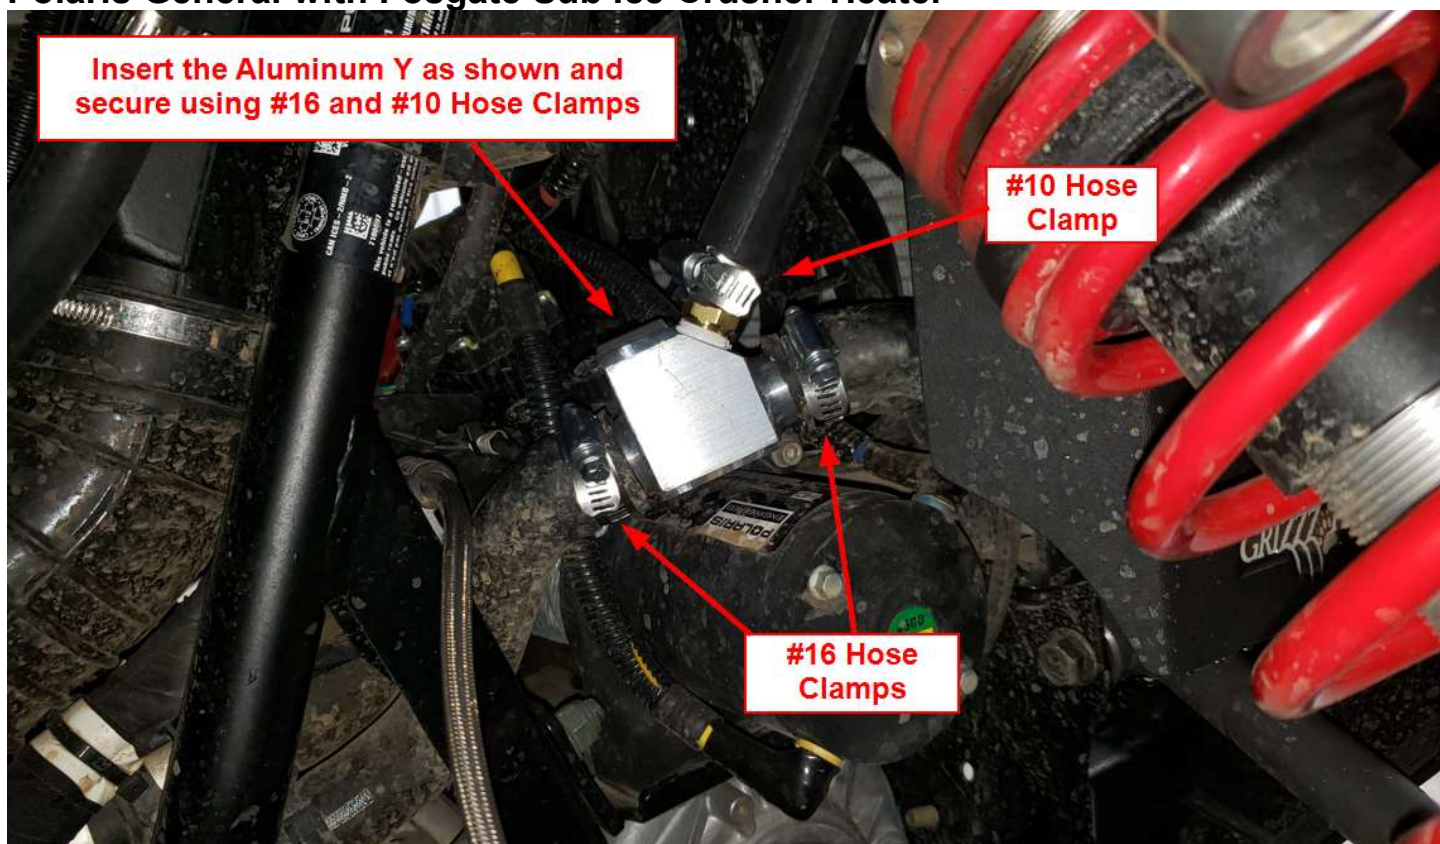

Figure 26
- h. Insert the 1" Aluminum Y as shown in Figure 26. Secure using #16 Hose Clamps for the larger hoses. Insert the 5/8" Heater Hose, and secure with a #10 Hose Clamp.